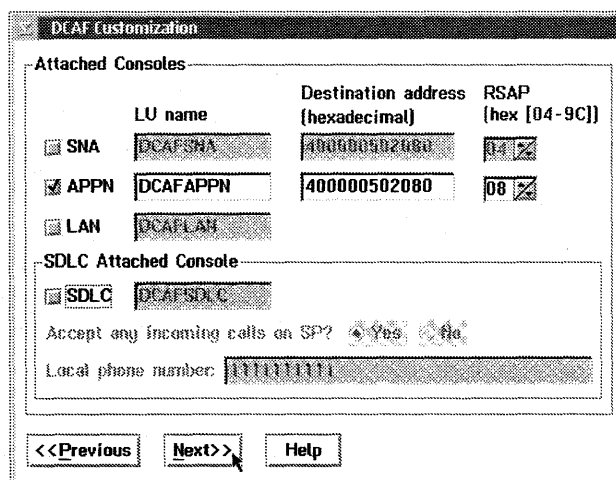

Figure 8-2. DCAF Customization
APPN LU name (Figure 8-2 on page 8-3)	LU name (Step 11 on page 8-7)
APPN Destination address (Figure 8-2 on page 8-3)	LAN Destination address (Step 11 on page 8-7)
RSAP (Figure 8-2 on page 8-3)	Remote SAP (Step 11 on page 8-7)
- b. Second part matches the **APPN LU name** in Figure 8-2 on page 8-3.